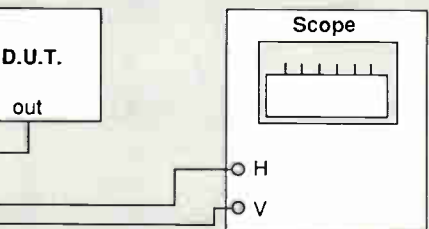

Figure 2
tion necessary. Let's consider how the common bench sweep system works (Figure 2).
portionately. Let's consider how the common bench sweep system works (Figure 2). The RF output of the sweep generator is connected to the device under test. The output of the device under test is connected to an RF detector, or is fed back to the sweep generator for detection. The RF detector provides a DC voltage output proportional to the RF input to the detector. This is the vertical (Y) deflection voltage for the scope display. A horizontal output from the sweep generator is connected to the horizontal (X) input on the scope. This horizontal output from the sweep generator is directly proportional to the sweep drive voltage for the oscillator in the sweep generator. As the horizontal output voltage ramps up in level, the sweeping carrier moves across the spectrum pro-